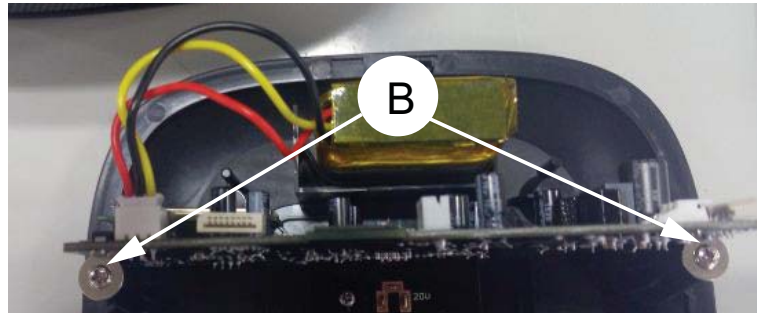

Figure 3
- 1) Loosen 2 screws "B" on the top of SOD SL / SOD SR PCB as shown in figure 3.